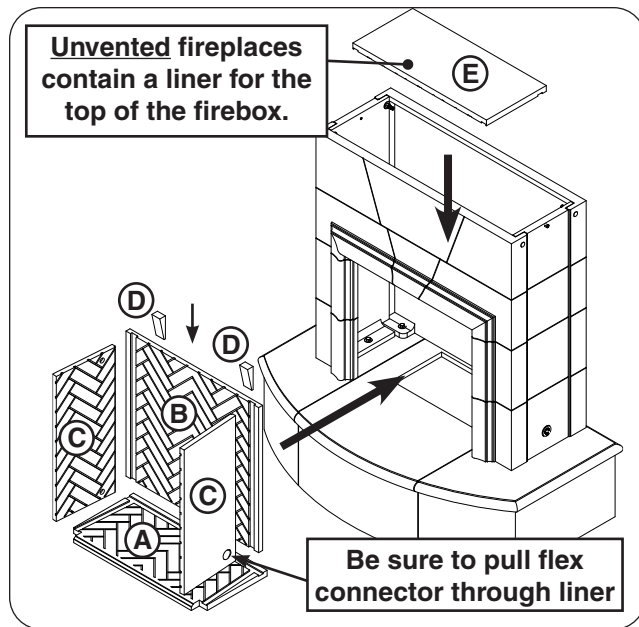

Fig. 27-1 Install firebox liners
1. Install the firebox liners into the interior of the firebox in the order shown in Fig. 27-1.